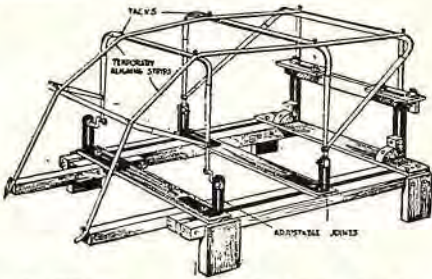

Fig. 1. When the car cannot be left in the shop, this adjustable frame enables the mechanic to duplicate the method of holding used on the car.
The top building frame is shown in Fig. 1, and it is used only when the car for which the top is being repaired cannot be left during the work. It is simply an adjustable framework upon which the top may be placed in exactly the position it occupies when up, and on the car. For each car the frame is set to duplicate the measurements of the top-supporting irons and the car body. Then the workman can repair or rebuild the top with assurance that it will fit when returned to the car. When possible, the top should be left on the car during the repair.
4. Line up the top bows. The method of doing this is shown in Fig. 1. Heavy canvas straps are passed over each side of the bows, drawn tight, and tacked in place. The front bow should fit down over the windshield; the two middle bows should be vertical, and the position of the rear bow can be gauged by the length of the straps holding it down to the body back.